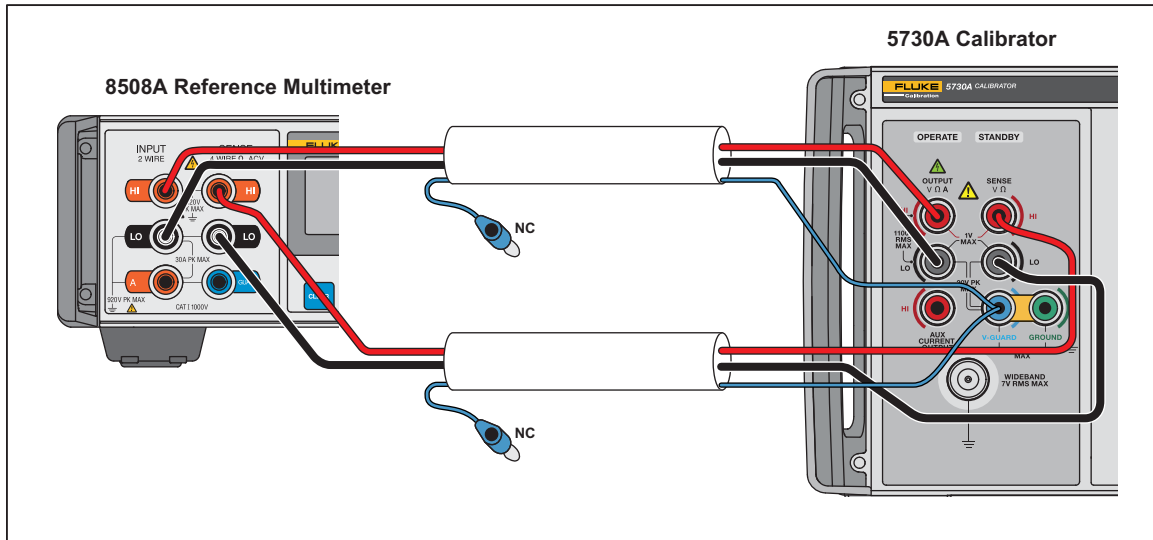

Figure 7. 0Ω , 1Ω , 1.9Ω Resistance Verification
1. Connect the DMM to the Product as shown in Figure 7 using the 5730A-7003 cables.
8. Connect the DMM to the Product as shown in Figure 7.